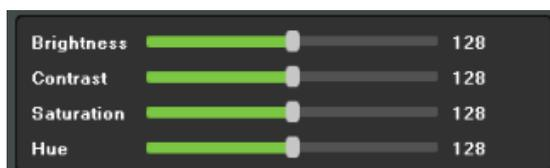

Figure 7.4 Image Setting Interface
- 6. Image Parameters: Adjust the Brightness, Contrast, Saturation and Hue of the channel, as shown in Figure 7.4.